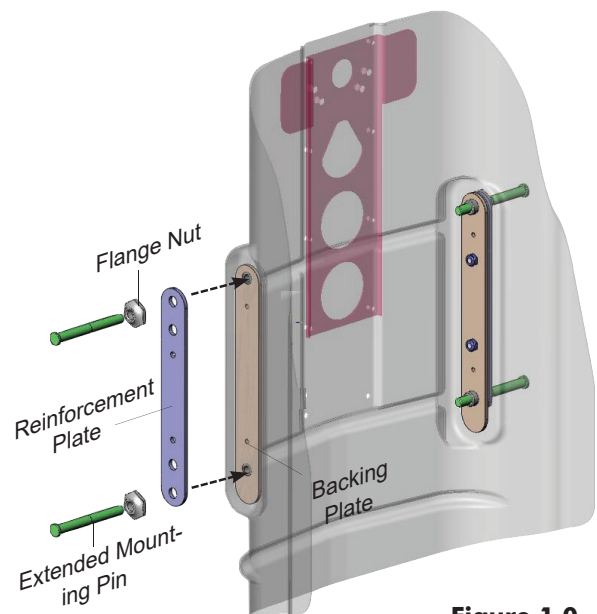

Figure 1.0
3. Working on one side of the back, place/align the reinforcement plate (*provided*) on the outside of the back shell as indicated in **Figure 1.0**, and manually install the new EMP's and flange nuts to hold the reinforcement plate in position.